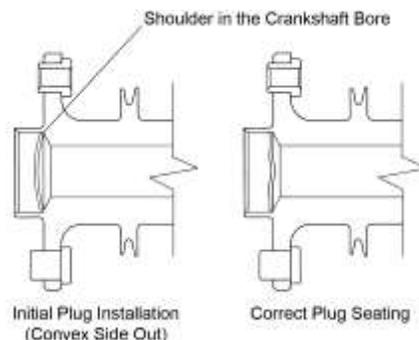

Figure 45
- (2) Apply a bead of Loctite® #2 Non-Hardening Gasket Maker or equivalent to the perimeter of a new expansion plug.
- (3) Seat the new expansion plug firmly against the shoulder in the crankshaft bore with the convex side out (Figure 45).
- (4) Install a Crankshaft Welch Plug Driver P/N 64681 against the expansion plug and strike the end of the driver with a hammer until the expansion plug is correctly seated (Figure 45) in the crankshaft bore.
- (5) Remove excess gasket material with a clean cloth soaked with acetone.